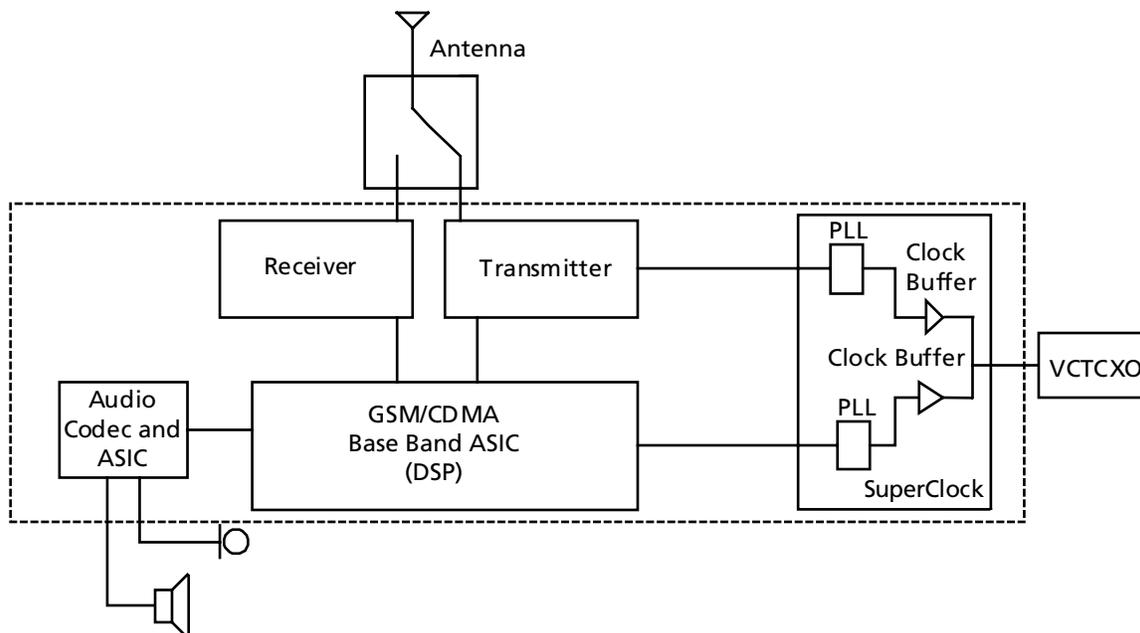

Figure 2 • SuperClock in a Cell Phone Application
SuperClock can be used in telecommunications, optical transceivers, data and storage area networks, and wireless products where low skew and accurate clocks are essential for performance. Figure 2 is an example application of SuperClock circuitry.
Cell phones require clock buffering of the system reference voltage-controlled temperature-controlled crystal oscillator (VCTCXO). The transmitter and baseband application-specific integrated circuits (ASICs) need phase adjustment of the frequency modulation (FM) audio signal. As depicted in Figure 2, SuperClock's low-skew clock buffers and dynamically reconfigurable PLLs can provide a single-chip solution for the cell phone system.
As indicated by the dotted lines in Figure 2, the entire system can be implemented in a single Axcelerator chip with a chip-scale package (CS180) to meet the space-saving requirements of cell phone applications.